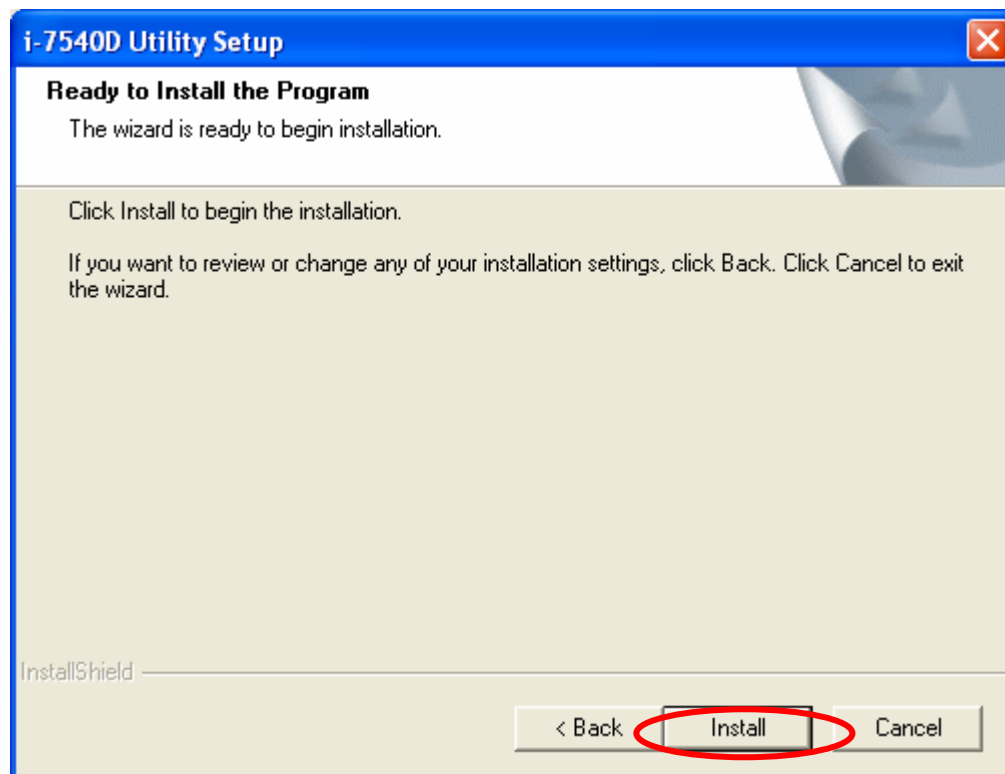

Figure 3-5: “Successful Completion of the Installation” dialog
Step 6: Click “Install” button and start to install the i-7540D Utility to the system. After finishing the process, a “Complete” window will pop up to prompt users that the successful completion of the installation. And click “Finish” button to exit. See figure 3-5.